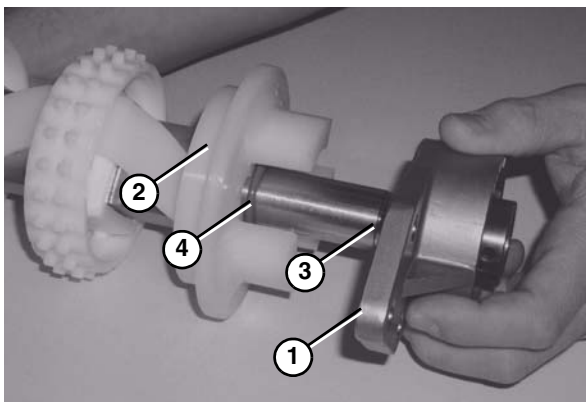

Figure 60
9. Slide the 3 hole flange with bearing (Figure 60, item 1), spacer (Figure 60, item 3), O-Ring (Figure 60, item 4), and flanged puck (Figure 60, item 2) off the drive spindle.